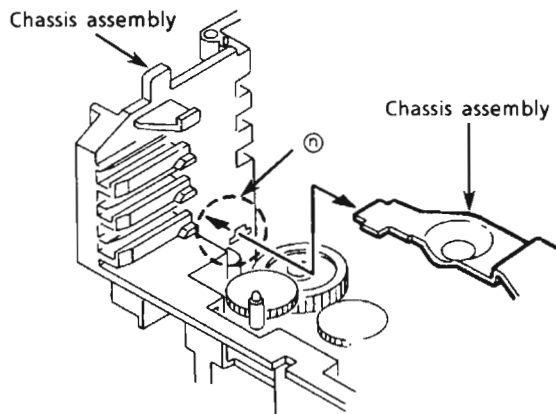

Fig. 45
3. Remove the gear bracket from the chassis ass'y's ③ securing top of the gear bracket. (See Fig. 45.)